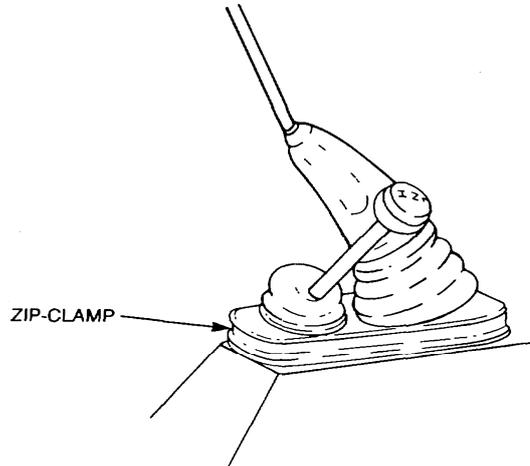

Figure 58 Gear Lever Rubber Boot Removal
- a. Remove the zip-clamp securing the rubber boot to the transmission tunnel cover (Figure 58).
- g. Install the rubber boot onto the tunnel cover and secure it with the zip-clamp (Figure 58).
- Remove the zip-clamp securing the rubber boot to the transmission tunnel cover (Figure 58).
- Install the rubber boot onto the tunnel cover and secure it with the zip-clamp (Figure 58).